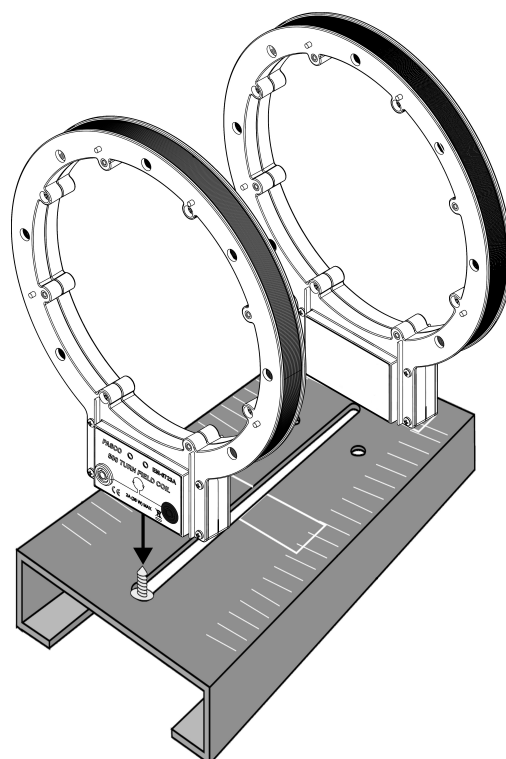

Figure 2. Attaching the adjustable coil
2. Attach the second coil to the cap screw provided in the center slot on the base. Slide the coil to the desired position, then secure the mount firmly against the top surface of the base. (See Figure 2.)